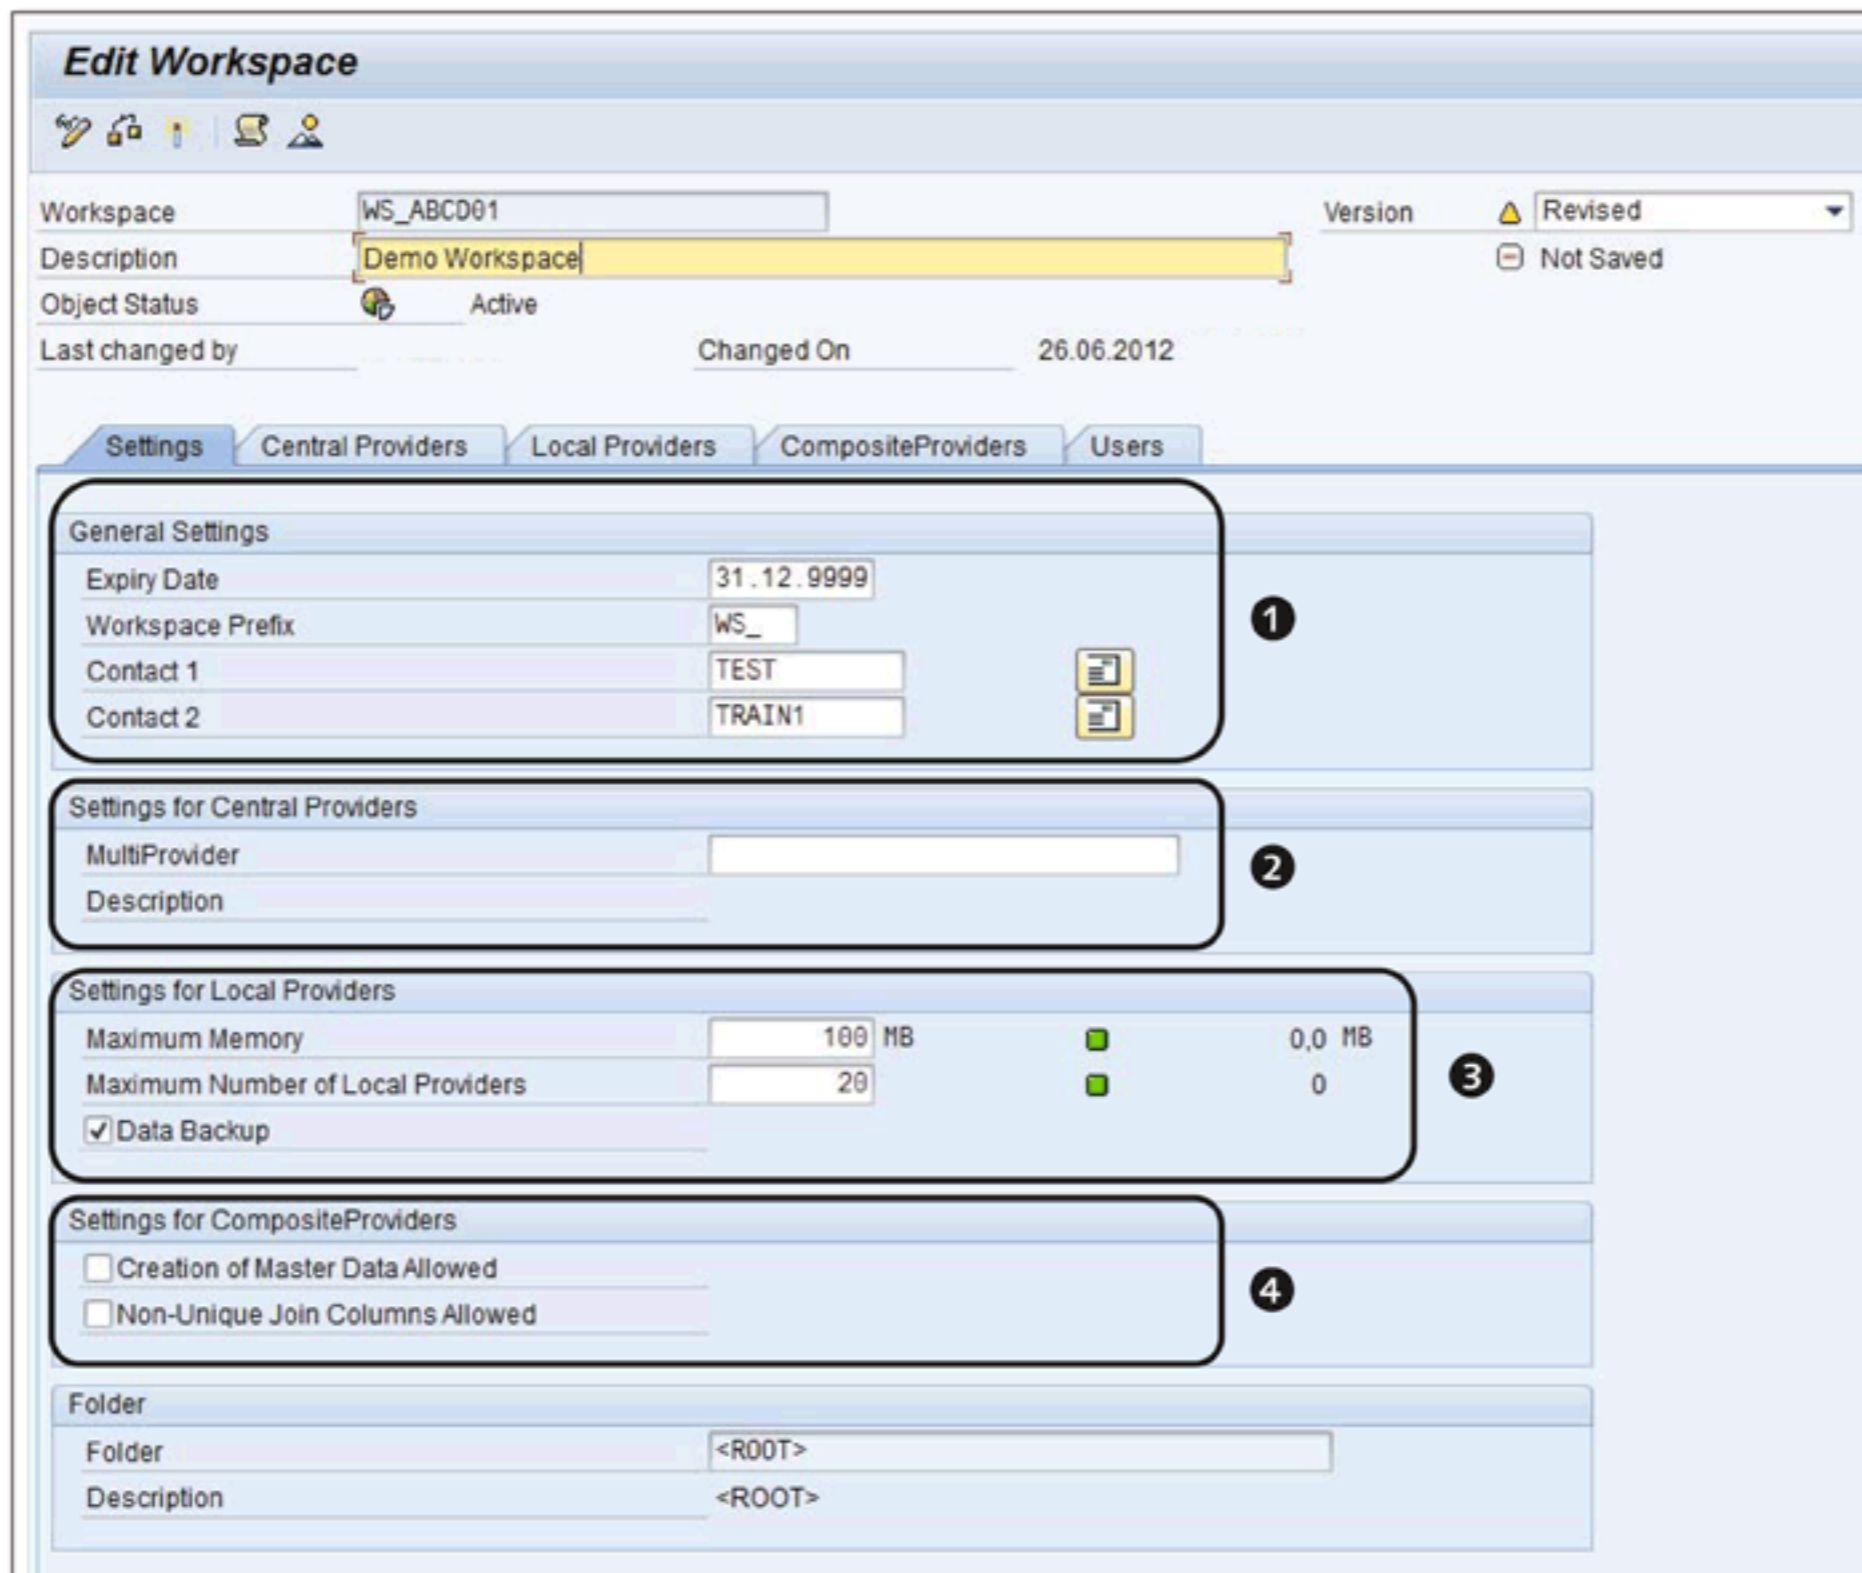
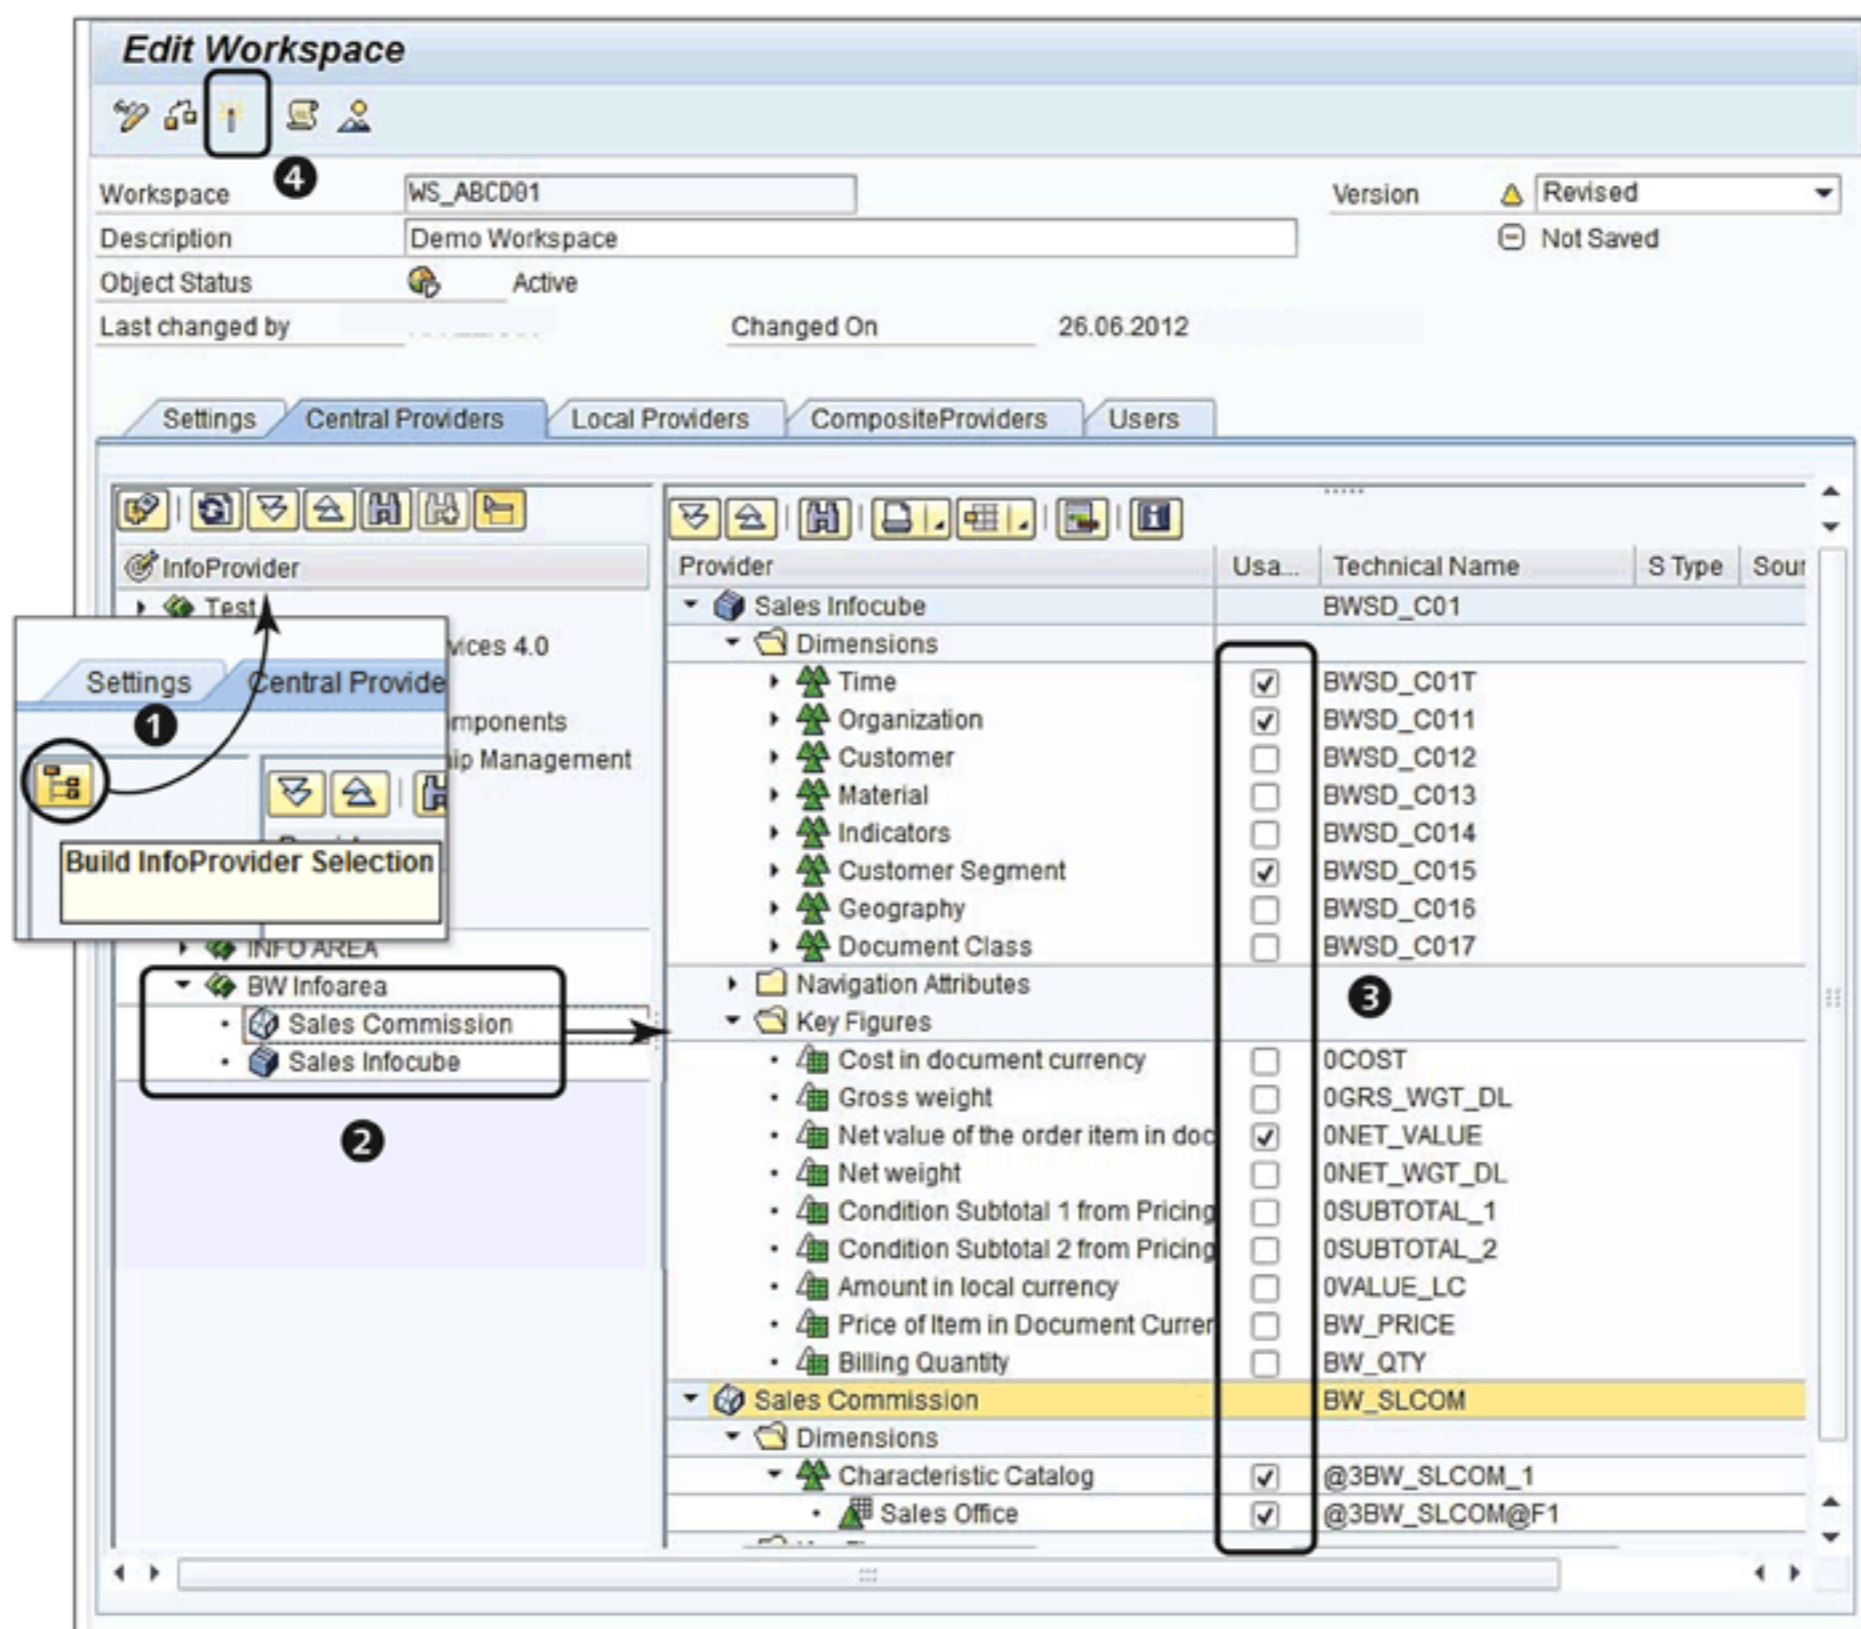

Figure 10.73 Define a BW Workspace
Figure 10.74 Define Central Providers
Enter the Workspace's technical name and click on the CREATE button. The next screen shows where you can define the details for the BW Workspace (Figure 10.73). There are five different tabs visible in a BW Workspace maintenance screen:
Define the basic settings for the BW Workspace on this tab, including the validity and contact details (❶ of Figure 10.73). Under the section **SETTINGS FOR**
CENTRAL PROVIDERS, you can specify if the BW Workspace is based on a Multi-Provider (2 of Figure 10.73). For the included MultiProvider, all of the underlying base providers that are present in SAP NetWeaver Business Warehouse Accelerator (BWA) are included in the BW Workspace. Also, only those characteristics and key figures from the base providers that are part of the Multi-Provider are available for the BW Workspace.
BW Workspaces also allow users to upload their own data files for analysis. The section SETTINGS FOR LOCAL PROVIDERS allows you to set the parameters for such local providers (3 of Figure 10.73).
Select the checkbox CREATION OF MASTER DATA ALLOWED if you would like master data SIDs to be created for the data that is loaded locally (4 of Figure 10.73).
Within a BW Workspace, you can provide one or more InfoProviders for users to create ad hoc analysis scenarios. The InfoProviders made available in a BW Workspace are called *central providers*. For an InfoProvider to be defined as a central provider, it has to be present in BWA. Thus, InfoProviders like BWA-enabled InfoCubes, master data, and the analytical index can be added as central providers to the BW Workspace. These are defined in the CENTRAL PROVIDERS tab of the BW Workspace maintenance screen (see Figure 10.74). If you added a MultiProvider under the SETTINGS FOR CENTRAL PROVIDERS section on the first tab (2 of Figure 10.73), then the basic providers (those present in BWA) from the included MultiProvider are already included as central providers.
Alternatively, you can also select individual InfoProviders from the INFOPROVIDER section. To display the INFOPROVIDER tree on the left side, click on the icon shown in ❶ of Figure 10.74. Next, drag the selected InfoProviders to the right side of the screen to add those as CENTRAL PROVIDERS (❷ of Figure 10.74). Here you can also decide to make only a selected few fields available to users and hide the others. For example, perhaps you don't want users to see the sales details at CUSTOMER and MATERIAL level, and you also want to mask all key figures except NET VALUE. To do this, you can select the appropriate checkboxes as shown in ❸ of Figure 10.74. The CENTRAL PROVIDERS defined on this tab are then visible to users for creating COMPOSITE PROVIDERS.
Once all of the details are defined, save and activate the BW Workspace (❹ of Figure 10.74). The active BW Workspaces are then visible to users for further utilization.